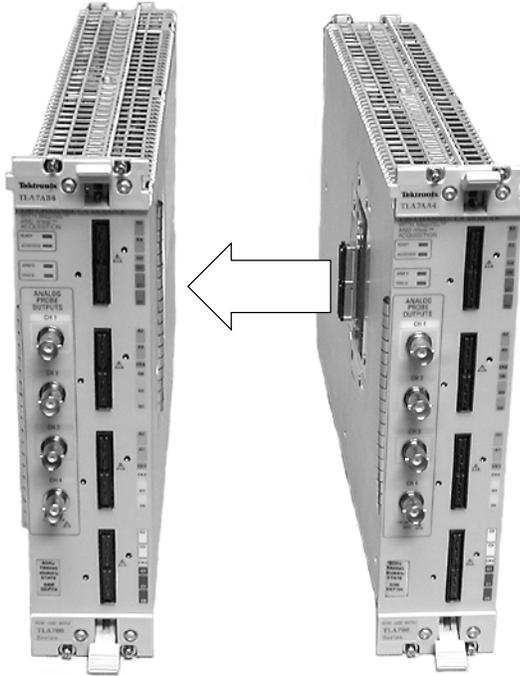

Figure 19: Connecting modules in a merged set
6. Place the first pair of modules to be merged side-by-side such that the merge connector assemblies line up and connect between the two modules (see Figure 19).